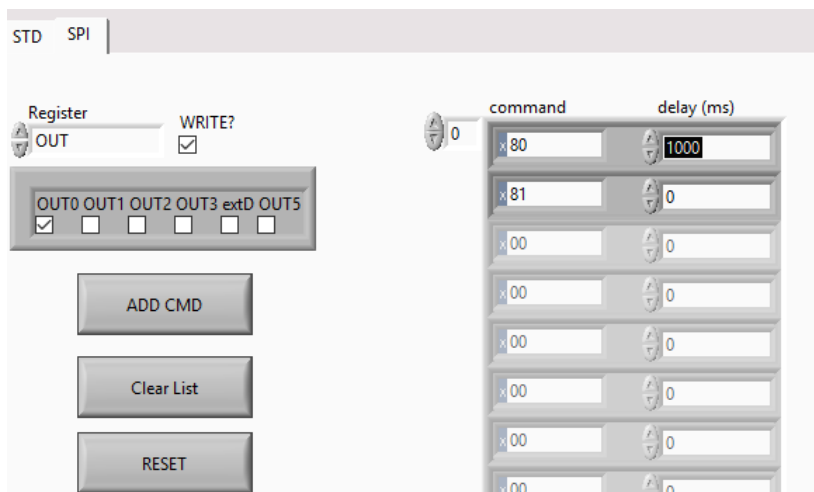

Figure 25 - change delay of cammands
- Change the delay of each command to 1000 (delay of 1 second, See Figure 25)